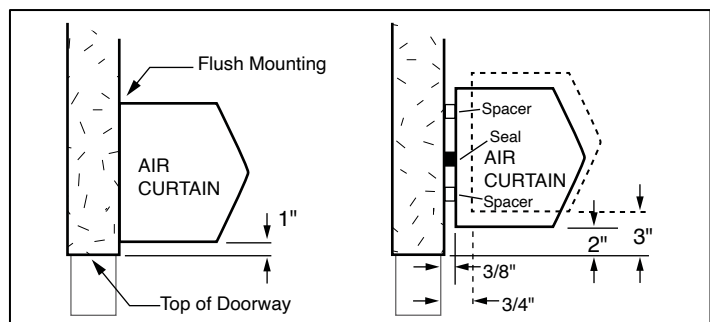

FIGURE 3 - Positioning of Air Curtain
- B. For optimum performance, the bottom of the unit (discharge nozzle) should be no more than 1" above the top of the door opening with the unit mounted flush to the wall. If the unit must be mounted higher, it must be **spaced out** from the wall **3/8" for every inch** the unit is above the door opening. Any void between the air curtain and the wall should be sealed along the full length of the unit. **See FIGURE 3.**